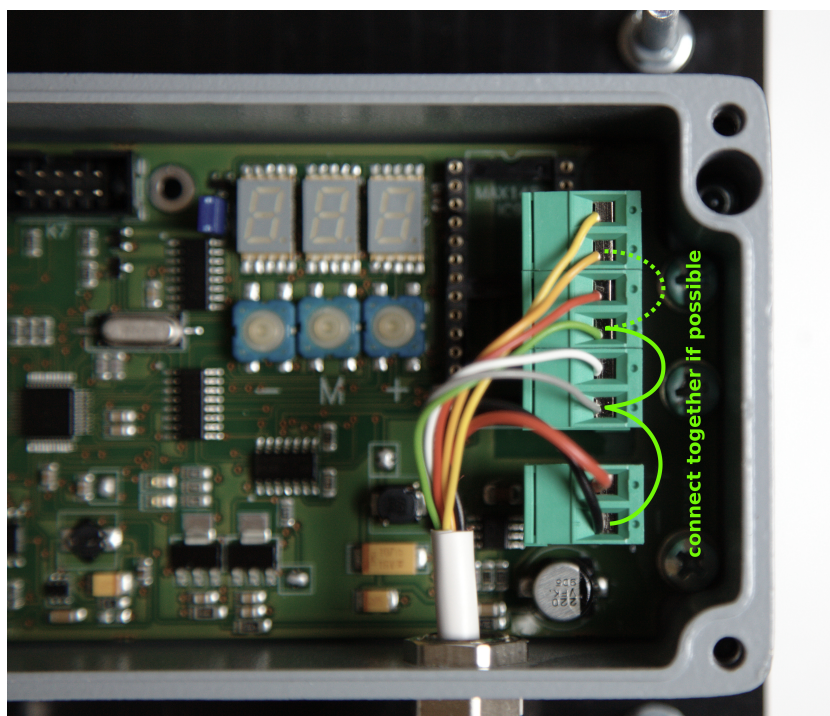
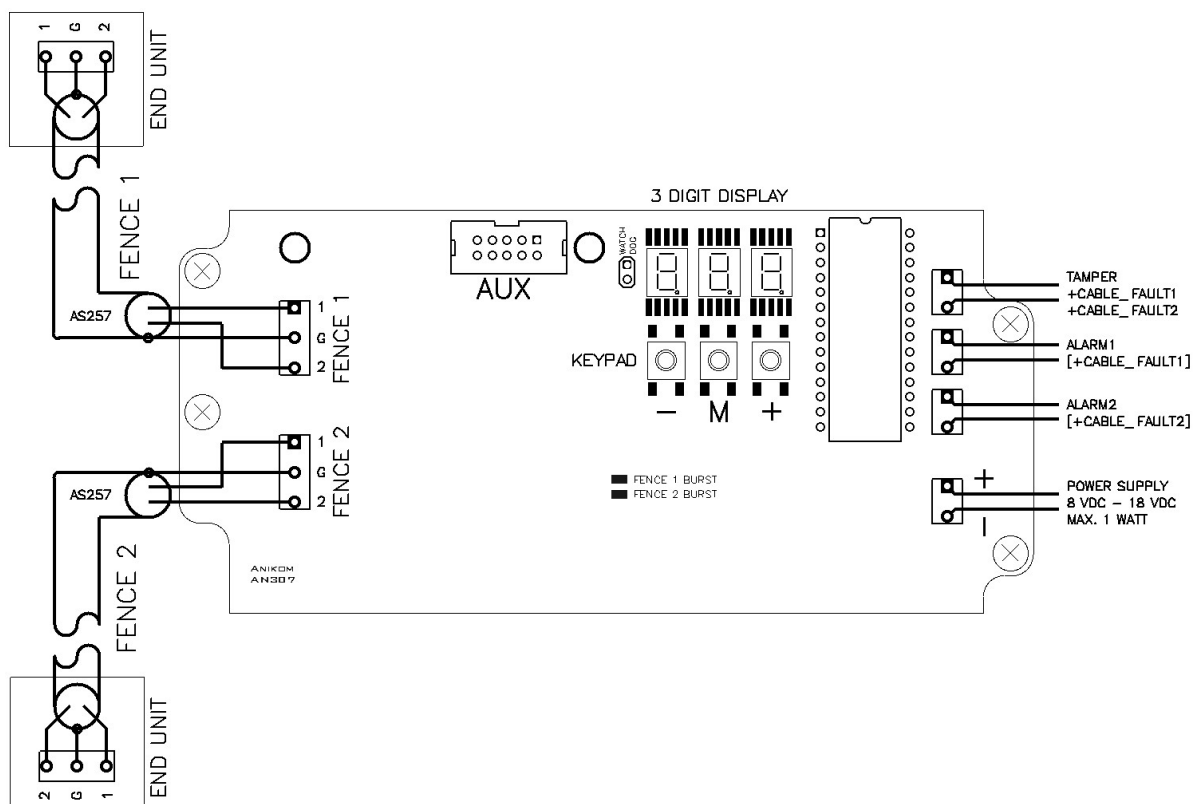
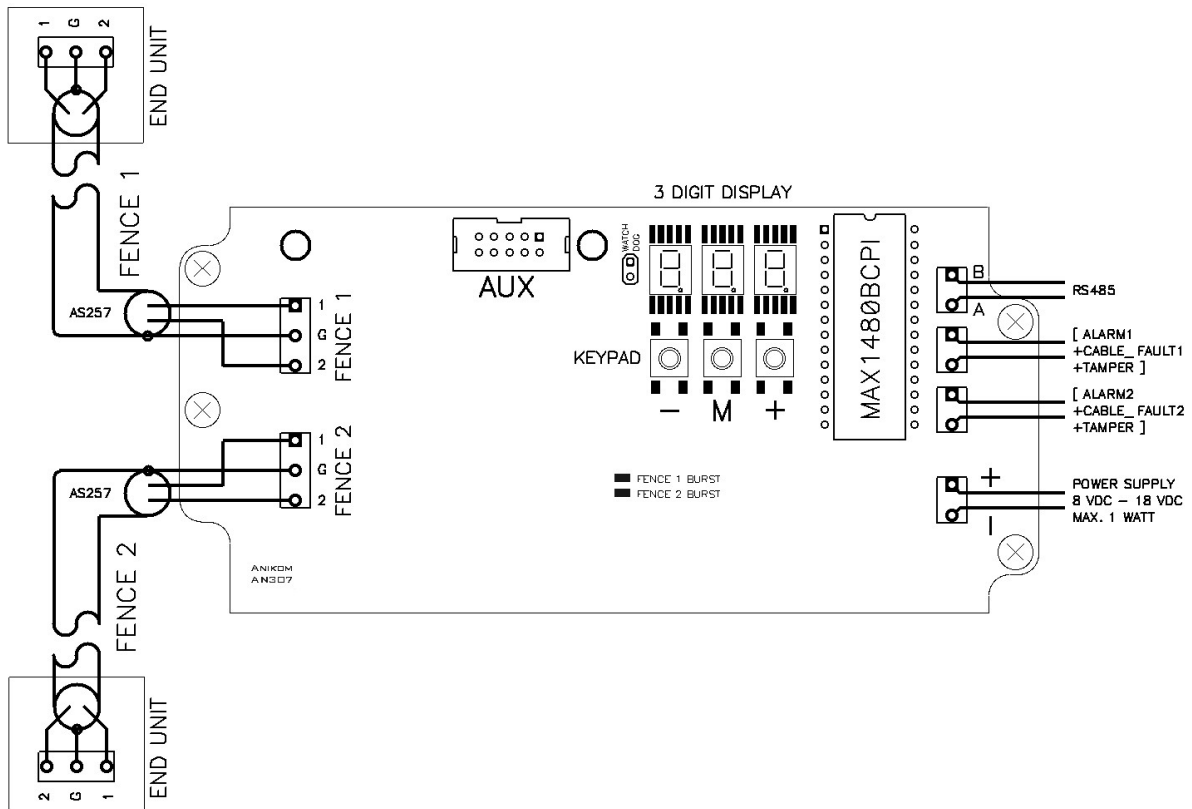
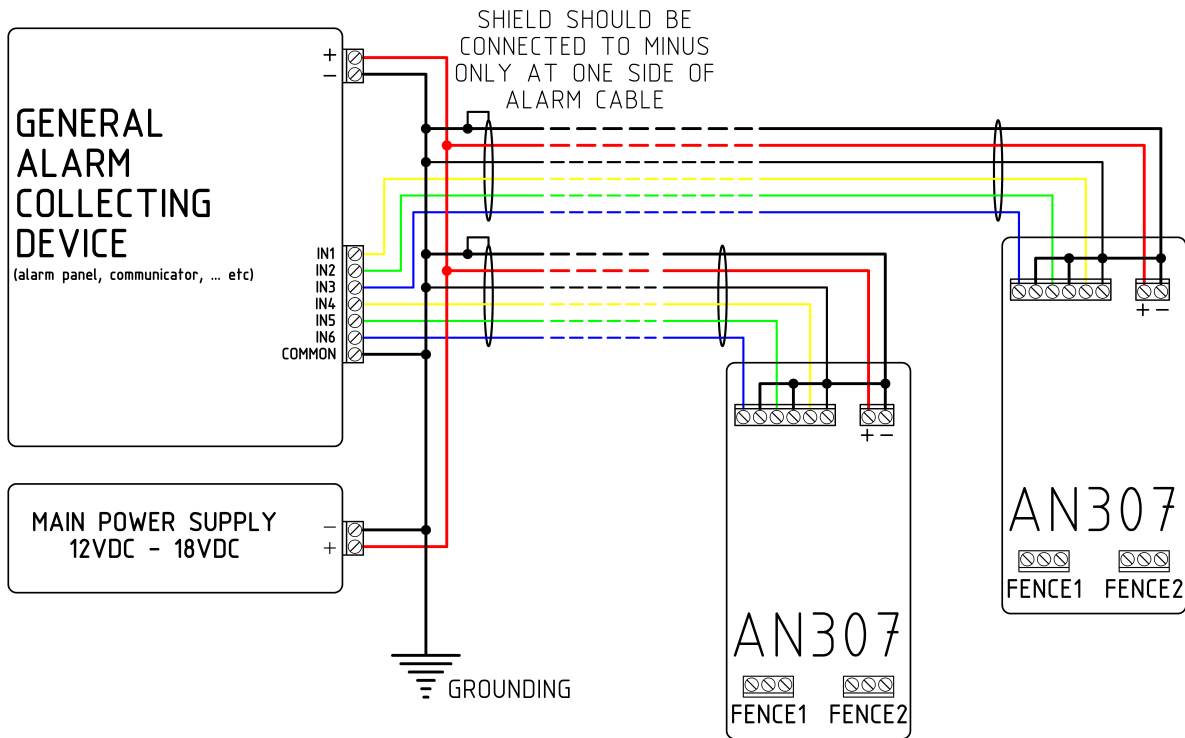

Figure 11: Connecting the power cable to the main unit.
Figure 12: Connecting of the main unit. (MAX1480BCPI must not be in the DIL28 socket!)
Figure 13: Connecting of the main unit with RS485 option (MAX1480BCPI must be inserted into DIL28 socket)
Figure 18: Connecting more than one AN307 to the back end
The supply and the output signal should be connected to the main unit by a shield alarm cable with eight or more wires ( $2 \times 1,5 + 6 \times 0,22$ ). The supply voltage is 12 VDC, and can be between 8 and 18 Volts (See Figure 11 and Figure 12).
RS485 option can be simply installed by putting standard integrated circuits MAX1480BCPI to the DIL28 socket (it is placed between display/keypad and relays terminals, see Figure 13). Notch type of the integrated circuits MAX1480BCPI must be on the top (as is drawn on the PCB). Please note, that any putting or removal MAX1480BCPI must be done with the power switch off, otherwise serious damage can occur on the device. When the power is switched on, the AN307 detects, if MAX1480BCPI is present, and take the further action (set relays and rs485 terminals according Figure 12 or Figure 13, respectively). The RS485 communication cable must be twisted pair, to achieve best performance.
One possible way of connecting the AN307 system to the back end is shown in Figure 18. Each AN307 is connected with a shielded alarm cable containing six wires ( $2 \times 1,5 + 4 \times 0,22$ ). Due to the possibility of lightnings we abide by some rules:
- The minus terminal at the AN307 and the terminals of relays, which have same potential (minus power supply), should be connected to each other inside AN307 if possible ( please see Figure 11 and Figure 18). Before doing this, it must be checked if the common terminal and the minus terminal on GACD have the same potential (resistance between those terminals must be less than 0.1 Ohm).
If this parameter is set to 0, relays for Alarm 1 and Alarm 2 will trigger only for alarms on the fence. If this parameter is set to 1, relays for Alarm 1 and Alarm 2 will trigger on the fence alarm or the cable fault (see Figure 12). The cable fault is always present on the tamper relay (so even this parameter is set to 0, the cable fault will not be lost). This parameter is valid if the MAX1480BCPI is not build in.
If this parameter is set to 1, the relays for the Alarm 1 and Alarm 2 are active (see Figure 13). The relay for Fence 1 will be active for Alarm 1 or Cable Fault 1 or Tamper. The relay for Fence 2 will be active for Alarm 2 or Cable Fault 2 or Tamper. If this parameter is set to 0, all relays are inactive (only the RS485 is active). If the relays are not connected, set this parameter to 0. This will reduce power consumption. This parameter is valid if the MAX1480BCPI is build in.
The LED fence 1 and the LED fence 2 light up in case the sensor wire is shaken. This is an indication of a beat (see Figure 12 and Figure 13).